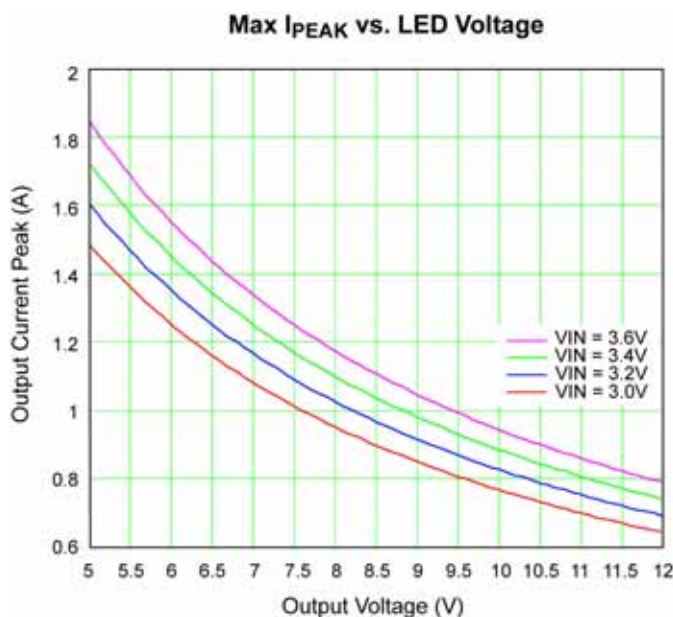

Figure 8. Peak Output Current vs. V_{OUT}
The SOA (safe operating area) of the MIC2298 is shown in the typical characteristics sub-section. This graph represents the maximum continuous output power capability of the part when used in the evaluation board layout. An alternative layout with more copper area for heat sinking will increase the area under the SOA curve. Note that the SOA is for continuous power and not peak power and is effectively a thermal limitation. The SOA is true for a time constant of approximately >1 second. Therefore, any load transient with a period of < 3s can exceed the SOA curve power up to a maximum limited by the current limit of the MIC2298. Figure 8 shows the theoretical output current limit of the MIC2298 using the Evaluation Board inductor value of 4.7μH.
- The time constant of the driver is < 3 seconds, so one can look at the peak current capability of the driver in Figure 8.
- Looking at Figure 8, the MIC2298 can achieve more than the required 800mA peak current at 8.4V.